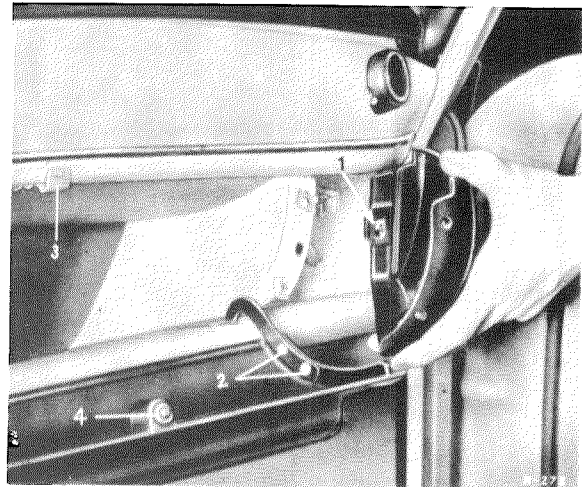

Fig. 68 — 4/1
1. Unscrew the countersunk screws (2) at the left and at the right and remove the glove compartment lid (see Fig. 68 — 4/1).
2. Mark the bore for the cylinder lock of the glove compartment lid in accordance with the specified dimensions (Fig. 68 — 4/2).
4. Remove the tongue (5) from the lock after first unscrewing the screw (6), and pay
attention to the lock washer (7), the washer (8), and the corrugated washer (9) (see Fig. 68 — 4/2).
5. Shorten the tongue (5) by 5 mm (see Fig. 68 — 4/2).
6. File the 18 mm \varnothing bore in the glove compartment lid to the specified dimensions (see Fig. 68 — 4/2) and fit the lock.